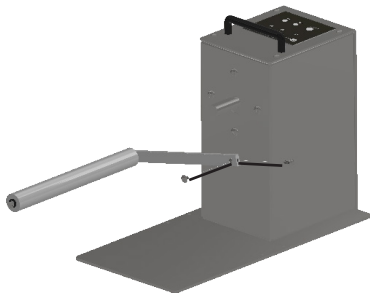
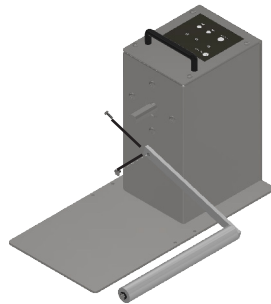

FIG. 4
FIG. 5
- The Tension Arm can be mounted right or left, depending on the printer position (FIG.4 & FIG.5), but always on the same side as the Bracket Guide